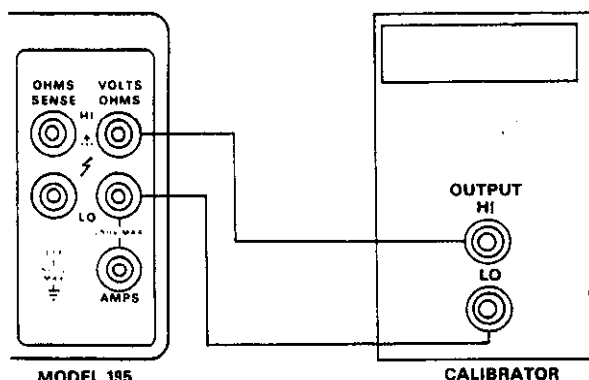

Figure 5-1. Connections for Voltage Verification
2. Connect the DC calibrator to the instrument as shown in Figure 5-1. The positive side of the calibrator output should be connected to the VOLTS OHMS HI terminal. Check to see that the front panel terminals are selected with the rear panel INPUTS switch.
2. Connect the calibrator to the Model 195 as shown in Figure 5-1. Set the calibrator output to 190.000mV AC at a frequency of 50Hz. See that the INPUTS switch is in the front panel position.